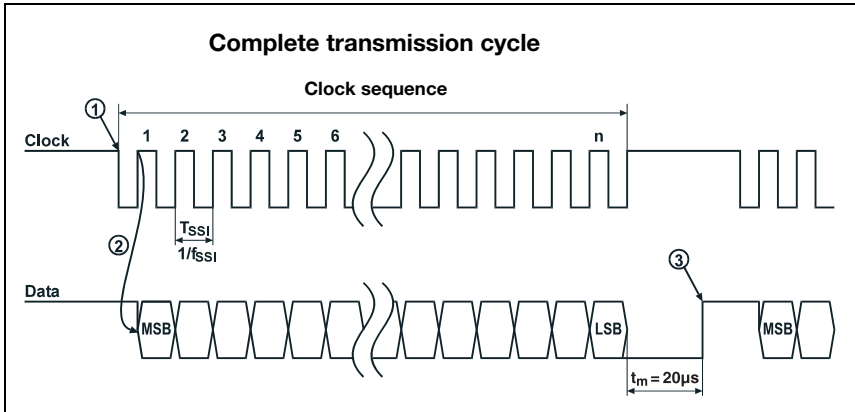

Figure 10.1: SSI data transmission sequence diagram
In the quiescent state both the clock line as well as the data line are at HIGH level. At the first HIGH-LOW edge (point ① in figure 10.1) the data in the internal register are stored. Thus it is ensured that the data cannot change during serial transmission.
When the next clock signal change from LOW to HIGH level (point ② in figure 10.1) occurs transmission of the position value begins with the most significant bit (MSB). With each successive change of the clock signal from LOW to HIGH level the next least-significant bit is transmitted on the data line. After the least significant bit (LSB) has been output, the clock signal switches from LOW to HIGH for one last time and the data line switches to LOW level (end of transmission).
A monoflop retriggered by the clock signal determines the time span before the SSI interface can be called for the next transmission. This results in the minimum pause time between two successive clock cycles. If time $t_m = 20\mu s$ has elapsed, the data line is returned to the quiescent level (HIGH) (point ③ in figure 10.1). This signals completed data communication and that the device is again ready for transmission.